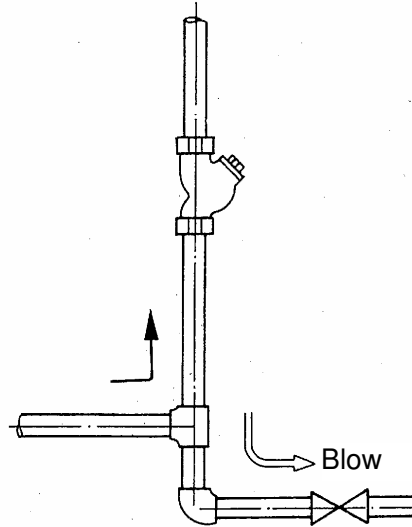

Fig. 2 Vertical piping
3. If the product can only be piped to run the fluid from the bottom to the top, make sure to install a blow valve in order to remove the scale accumulated at the bottom of the riser pipe. [See Fig. 2.]